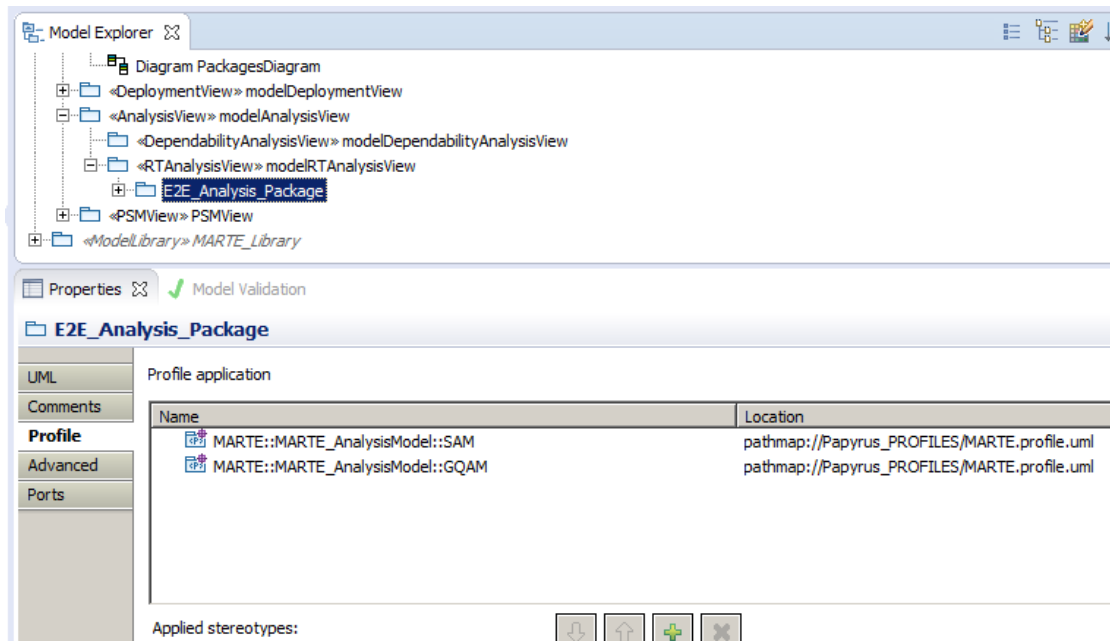

Figure 59 End2End Analysis Package
2. Apply the <<GQAM>> and <<SAM>> MARTE profiles to the newly created package (Figure 59): they are respectively the Generic Quantitative Analysis Modeling and Schedulability Analysis Modeling MARTE packages.